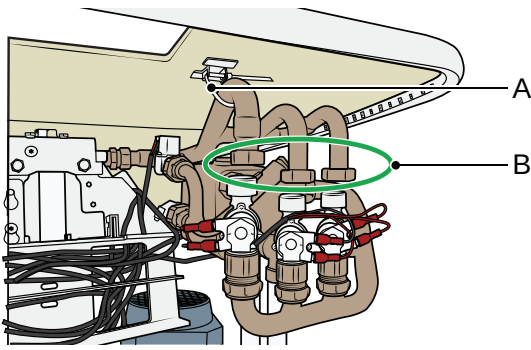

Figure 82
18. Remove the cable tie carefully (A). Attach the pipe connections to the mixer. Tighten the three nuts (B) on the mixer. See Figure 82.